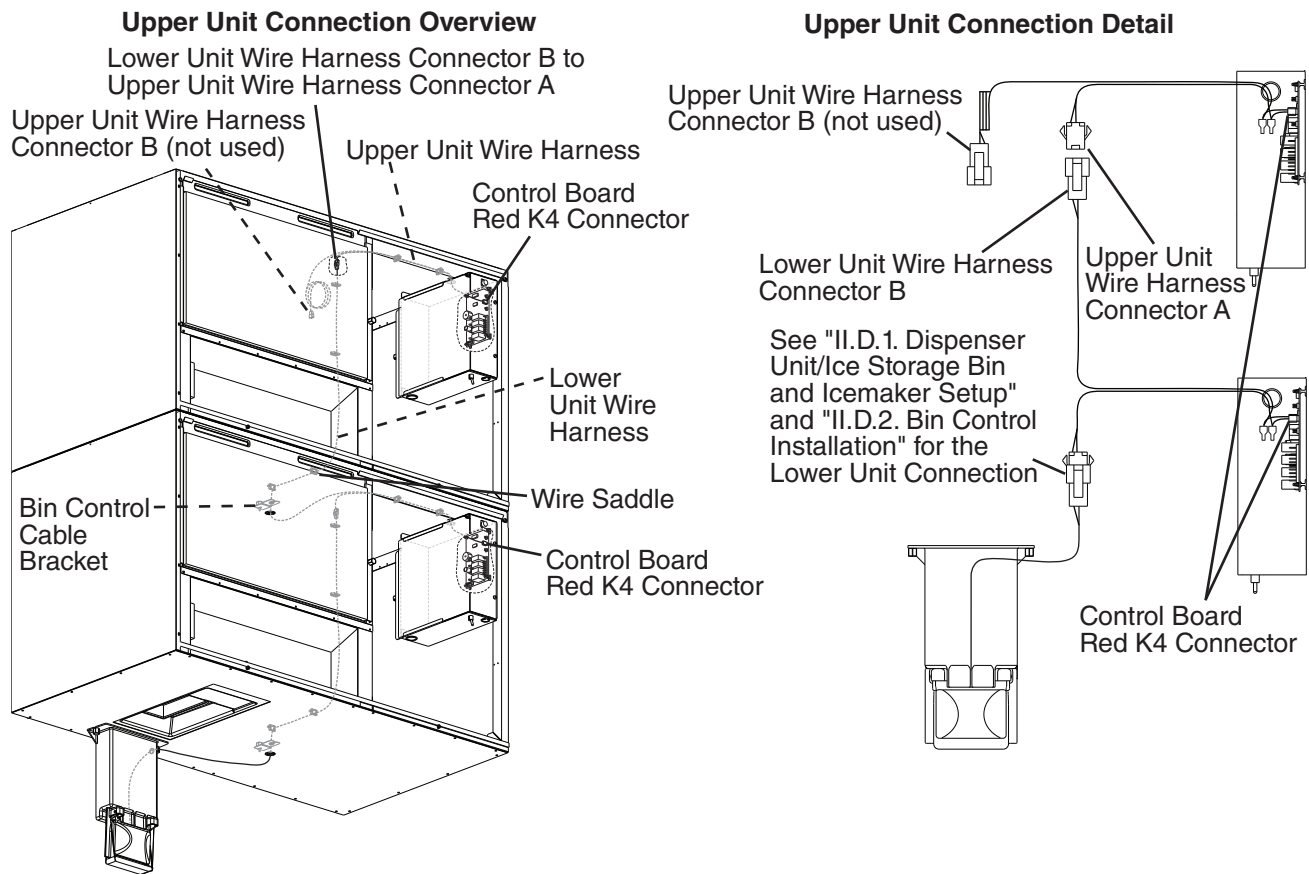

Fig. 6
- 7) Remove the bin control cable bracket from inside the upper unit. See Fig. 6. Leave the upper unit's bin control assembly in its original position. It will not be used.